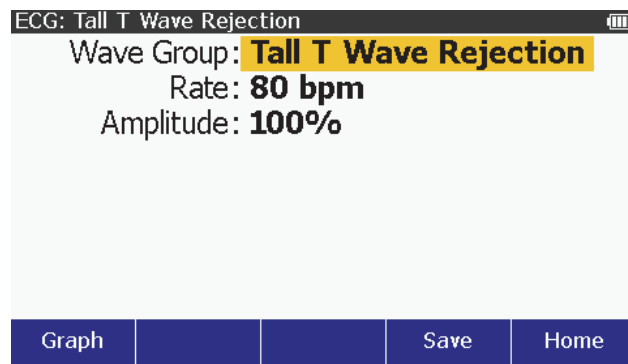

Figure 11. Tall T Wave Rejection Screen
5. Push **ENTER** to show the ECG: Tall T Wave Rejection in Figure 11 on the display.